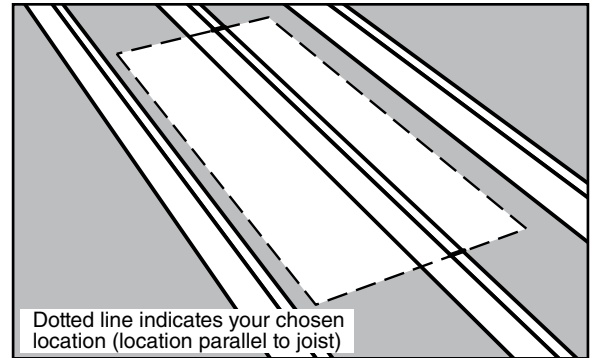

FIGURE 7
(A) If the chosen location is parallel to the joists, mark the rough opening length on top of the joists (See Figure 7).